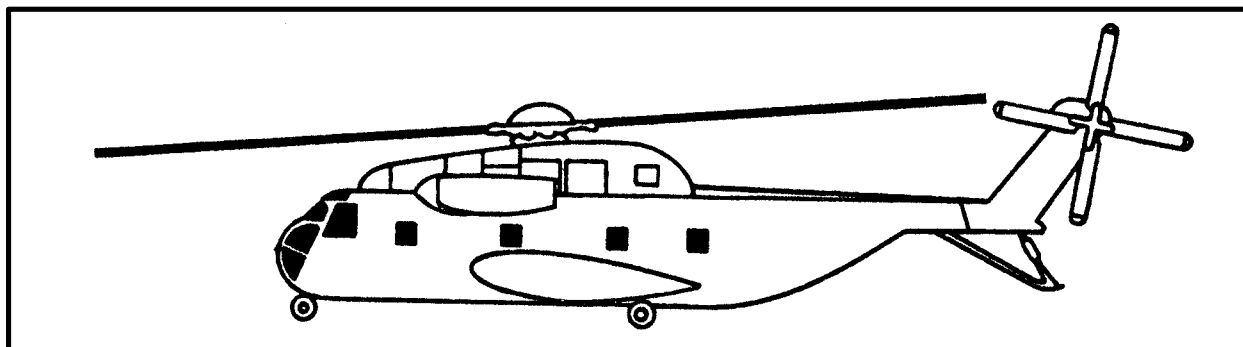
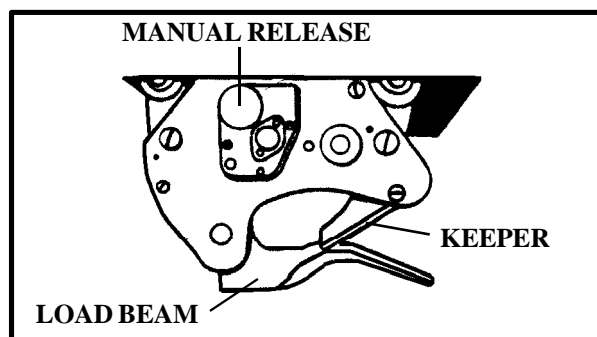

Figure 2-16. H-53A/D Stallion
Figure 2-17. H-53 Cargo Hook System
**f. H-53.** The H-53 Stallion (Figure 2-16) is a twin engine, single main rotor helicopter produced by Sikorsky Aircraft. Its primary mission is to either aerial deliver supplies and equipment or conduct airborne mine countermeasures (mine sweeping). The maximum capacity of the single cargo hook is 20,000 pounds (Figure 2-17). The cargo hook is suspended from an opening in the floor. The AC6000500 Mod-1 pendant system can be used with this aircraft. The aircrew can open the cargo hook electrically or manually. A manual release knob is located on the right side of the hook. In an emergency, the ground crew can rotate the manual release knob clockwise to open the cargo hook, if directed by the aircrew. If the manual release knob fails to open the cargo hook, the hook is not usable and another aircraft must be used to lift the load.